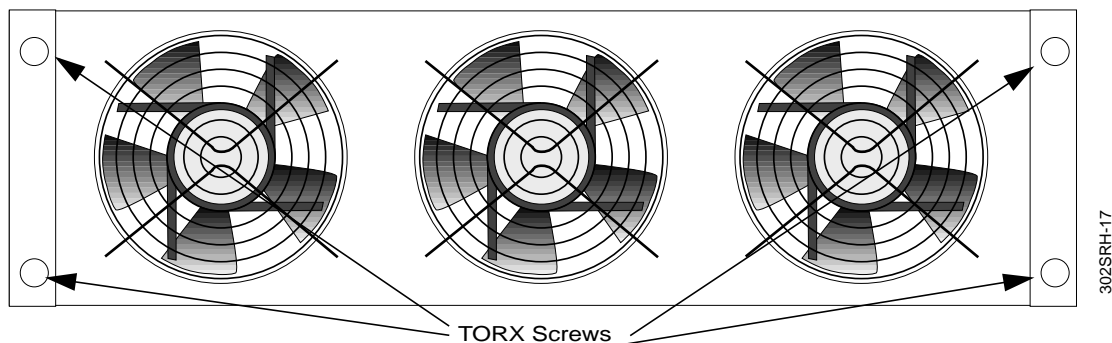

Figure 6-12: Power Amplifier—Front View
11. From the front of the cabinet, use a #T30 TORX® driver to remove and retain the four TORX screws securing the power amplifier (see Figure 6-12).
2. Secure the power amplifier using the four #T30 TORX screws removed in paragraph, "Power Amplifier Removal", Step 11 (see Figure 6-12).